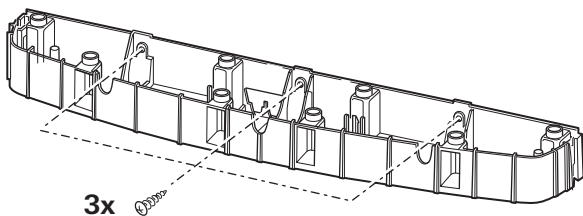

Fig. 17
- ▶ **S 3004:** Secure the support to the mounting frame with 3 screws (3.5 x 16 mm) (Fig. 17).